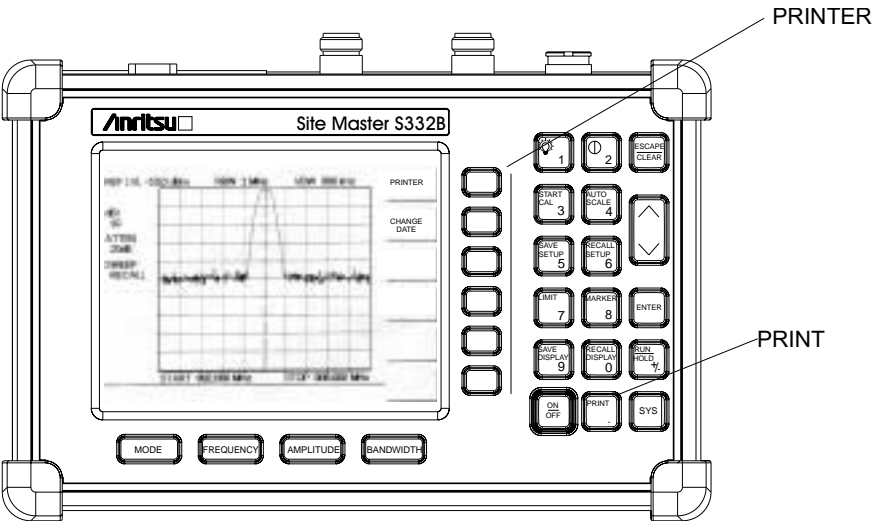

Figure 3-13. PRINTER Soft Key and PRINT Key
- Step 5.** Press the **PRINT** key. (Figure 3-13).